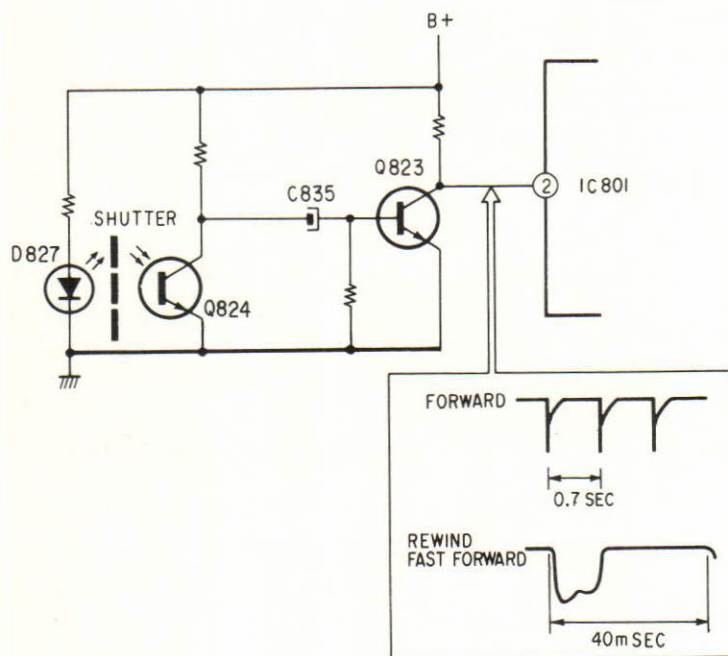

Fig. 12
5. Shut off Circuit (See Fig. 12)